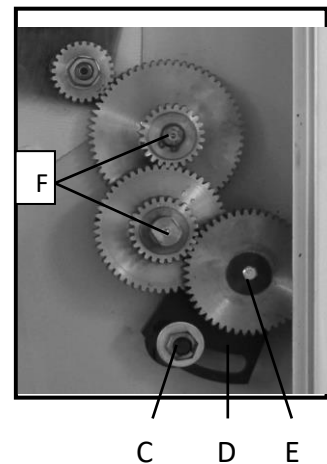

Fig.19
3. Loosen the locking screw (C. Fig. 19) on the quadrant.
4. Swing the quadrant (D. Fig. 19) to the right.
5. Unscrew the bolt (E. Fig. 19) from the leadscrew or the square bolts (F. Fig. 19) from the quadrant bolts in order to remove the change gears from the front.
6. Install the gear couples according to the thread and feed table (Fig. 19) and screw the gears onto the quadrant again.